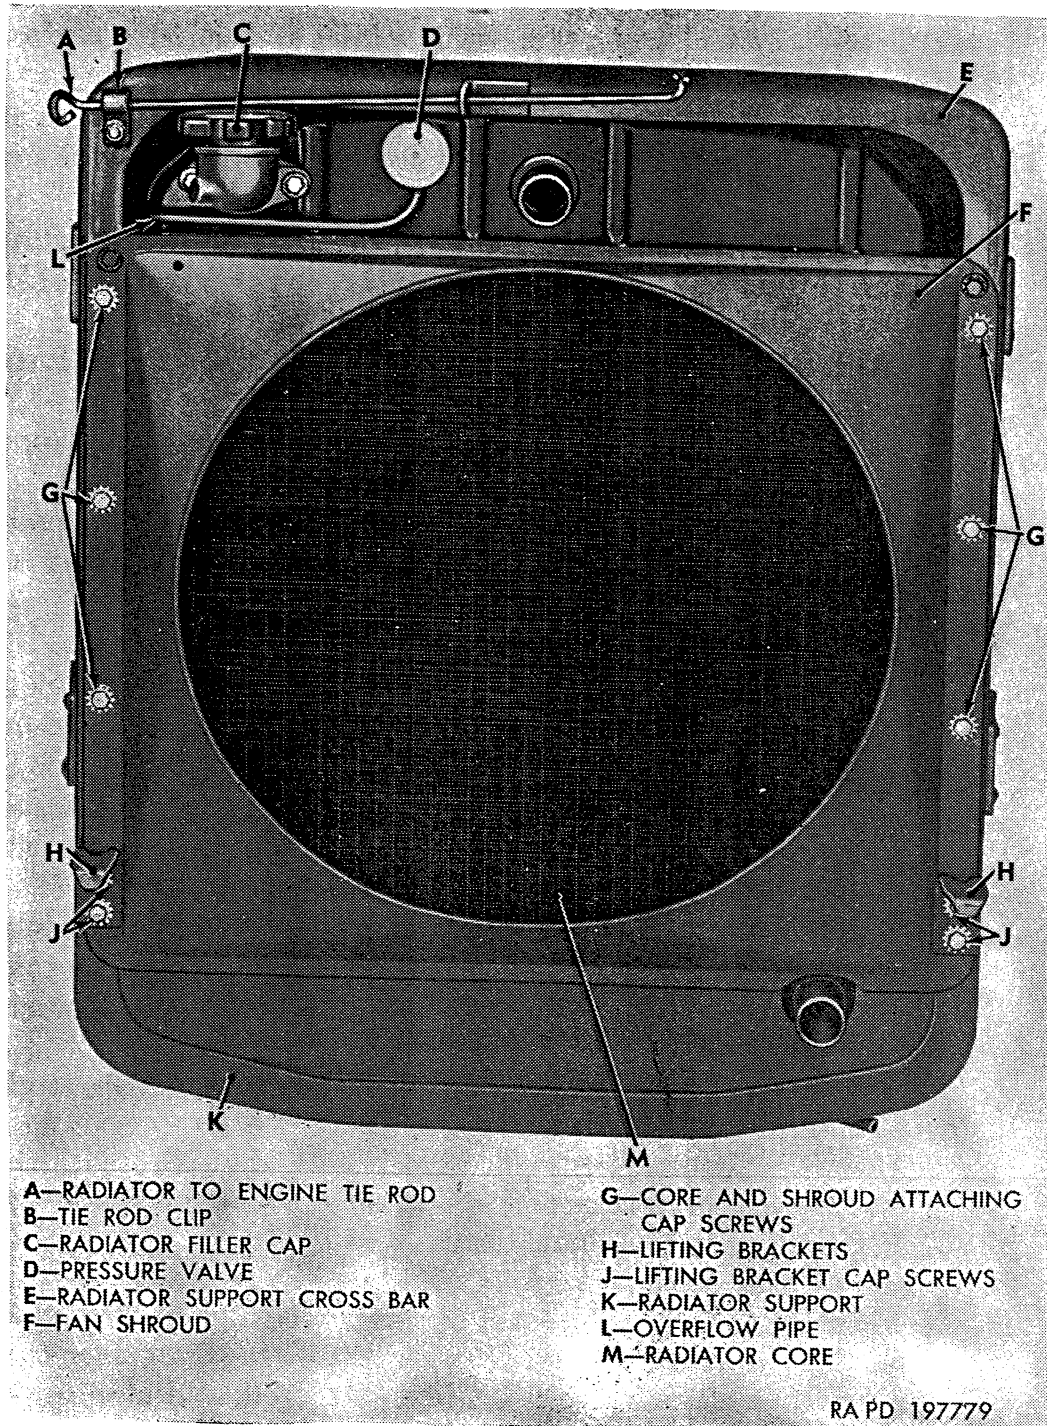

Figure 141. Radiator, support, and fan shroud.
- (1) *Removal.* Remove six cap screws (G, fig. 141) holding fan shroud to radiator. Loosen, but do not remove, four lifting bracket cap screws (J, fig. 141); then move top of shroud away from radiator. Remove four cap screws and lockwashers attaching fan blade assembly to hub; then lift fan blade assembly up between shroud and radiator.
- (2) *Installation.* Position fan blade assembly to fan hub and install four  $\frac{5}{16}$ -18 x 1 cap screws with external-teeth lockwashers. Tighten cap screws evenly. Locate fan shroud with seal against radiator. Install six  $\frac{5}{16}$ -18 x  $\frac{7}{8}$  core and shroud attaching cap screws (G, fig. 141). Tighten all cap screws including four lifting bracket cap screws (J, fig. 141).
*Note.* The key letters noted in parentheses are in figure 141, except where otherwise indicated.